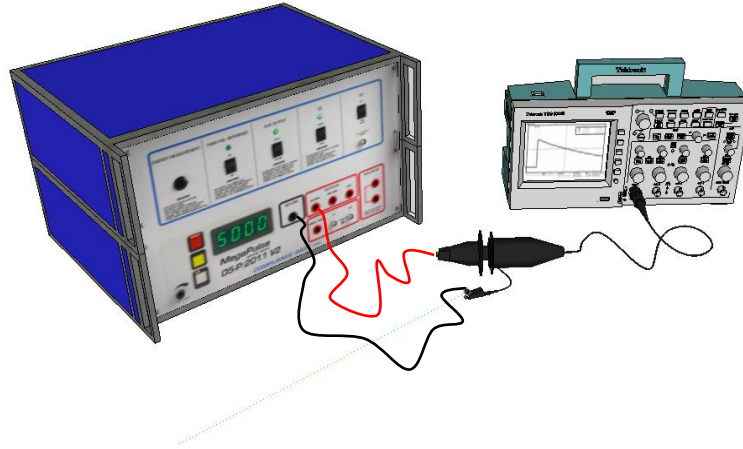

Figure 4 Waveform Measurement Setup (Image for reference only).
7. Connect the ends of the test leads to the measuring instrument. See Figure 4 for an example.